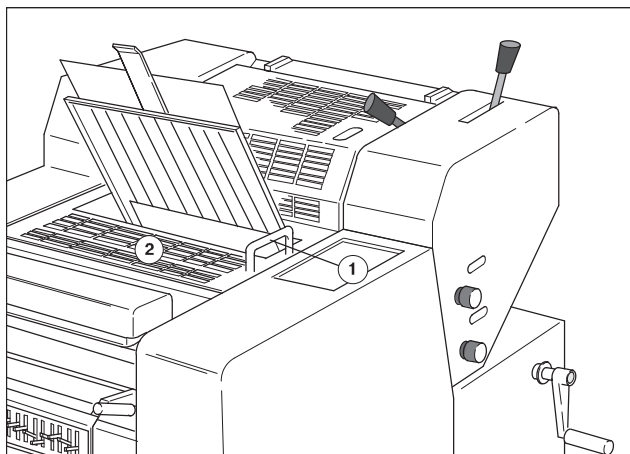

Fig. 12 Guard above the plate cylinder
1. Open the guard above the plate cylinder (Fig. 12/2) using the handle (Fig. 12/1).